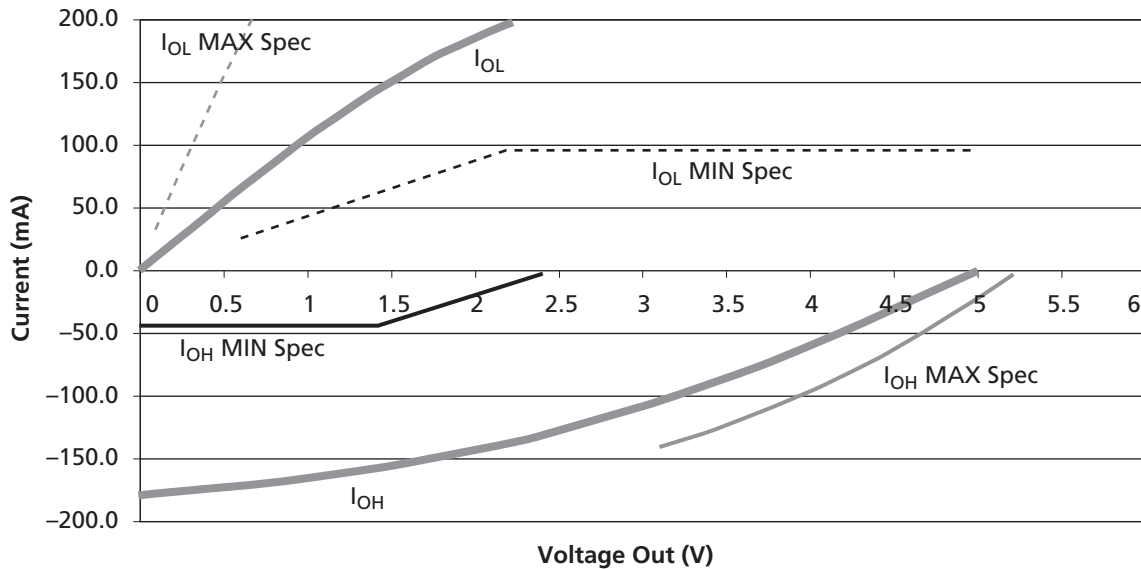

Figure 1-11 • 5 V PCI Curve for HiRel SX-A Family
Figure 1-11 shows the 5 V PCI V/I curve and the minimum and maximum PCI drive characteristics of the HiRel SX-A family.
1. Refer to the VI curves in Figure 1-11 on page 1-12. Switching current characteristics for REQ# and GNT# are permitted to be one-half of that specified here; i.e., half-size output drivers may be used on these signals. This specification does not apply to CLK and RST#, which are system outputs. "Switching Current High" specifications are not relevant to SERR#, INTA#, INTB#, INTC#, or INTD#, which are open drain outputs.